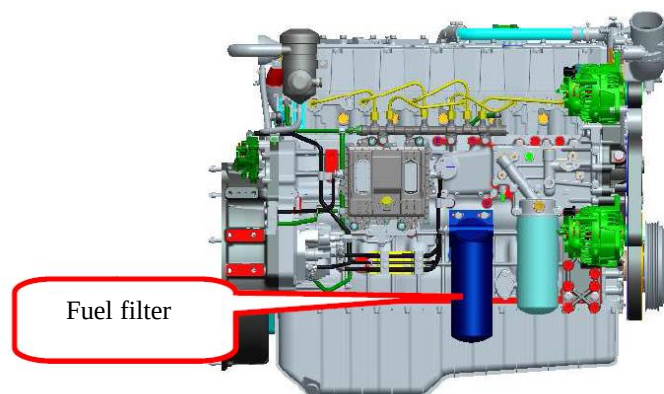

Fig.2-11 Fuel filter
- Replace the fuel filter element (See the fig. 2-11)